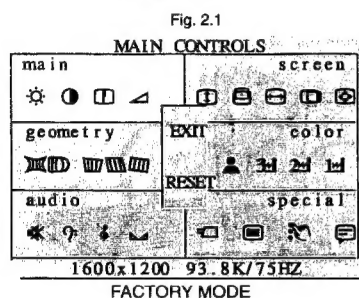

Fig. 2.1
Step 1: To select the character "FACTORY MODE" as shown in Fig. 2.1, press " " to access the OSD menu for R/G/B gain & cutoff as shown in Fig. 2.2.
- : Press " " to show the OSD menu as shown in Fig. 2.1.